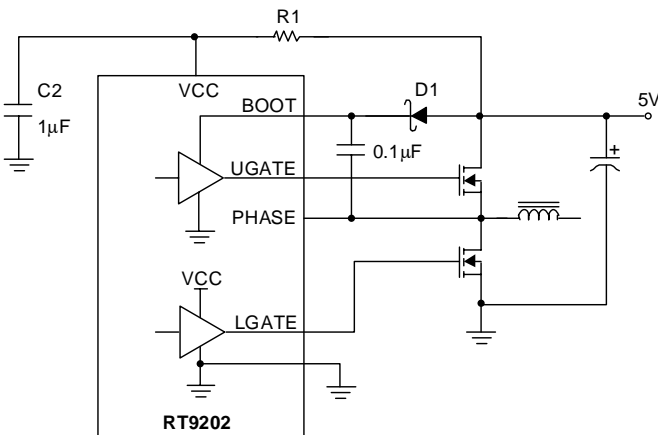

Fig.1 Single 5V power Supply Operation
In a single power supply system, the UGATE driver of RT9202 is powered by an external bootstrap circuit, as the Fig.1. The boot capacitor, C_{BOOT}, generates a floating reference at the PHASE pin. Typically a 0.1μF C_{BOOT} is enough for most of MOSFETs used with the RT9202. The voltage drop between BOOT and PHASE is refreshed to a voltage of V_{CC} – diode drop (V_D) while the low side MOSFET turning on.
The over current protection (OCP) function of the RT9202 is triggered when the voltage across the R_{DS(ON)} of upper side MOSFET that developed by drain current exceeds over-current tripping level. An external resistor (R_{OCSET}) programs the over-current tripping level of the PWM converter. As shown on Fig.1, the internal 40μA current sink (I_{OCSET}) develops a voltage across R_{OCSET} (V_{SET}) that is referenced to V_{IN}. The DRIVE signal enables the over-current comparator (OC). When the voltage across the upper MOSFET (V_{DS(ON)}) exceeds V_{SET}, the over-current